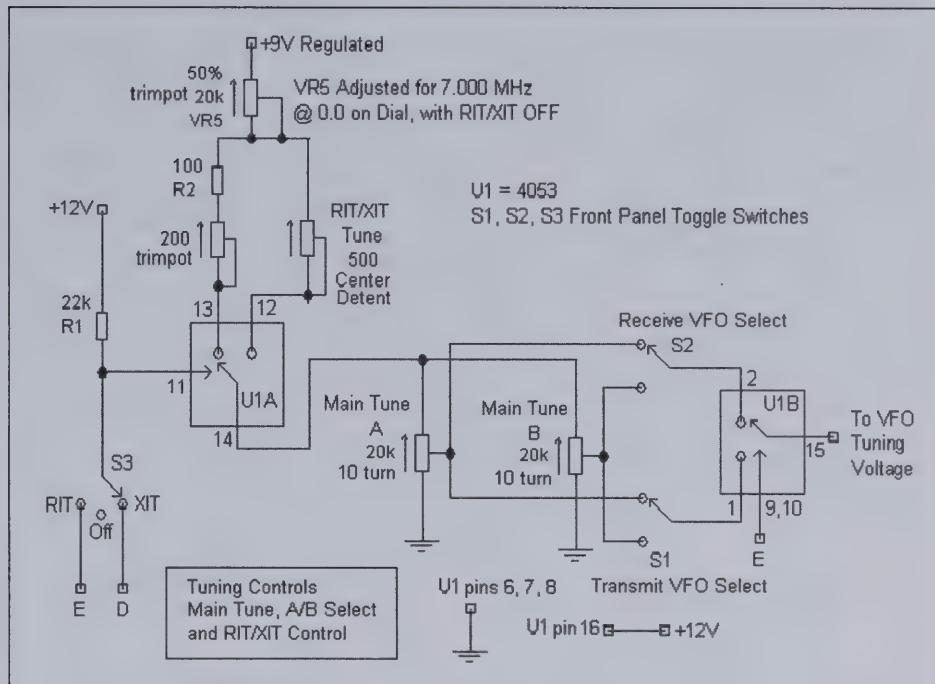
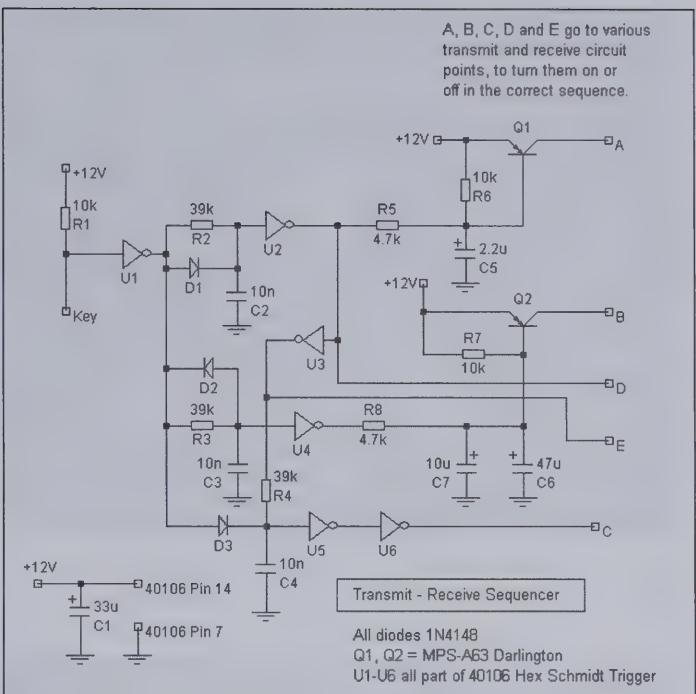

Figure 5—VFO tuning controls.
Figure 12—Transmit—Receive sequencer.
Front panel controls and some switching allow either of two ten-turn potentiometers to control the VFO, and the different potentiometers can be switched to the VFO on transmit and receive, allowing split operation (Figure 5). There is also the option to switch in an incremental tuning potentiometer on either transmit (XIT) or receive (RIT). The two main tuning controls will each cover the entire range of the radio. The incremental tuning potentiometer tunes about +2 kHz from the frequency
Transmit—Receive switching is done by a T/R sequencer that mutes the receiver before enabling the transmitter, and does not unmute the receiver until the transmitter has been disabled (Figure 12). It also starts the transmit carrier oscillator before powering the driver stage, and toggles the
The T/R sequence occurs as follows. Referring to Figure 12, a key down condition causes the output of U1 to be high. Diodes D1 and D3 then cause U2, U3, U5, and U6 to immediately toggle, which causes 12 v. to appear at A (transmit carrier oscillator) and C (receiver mute). At the same time, D goes low and E goes to 12 v., thus toggling the receive and transmit frequency controls (see Fig. 5). The R3/C3 network causes U4 to toggle slightly later, causing 12 v. at B, which switches the antenna to the power amplifier and turns on the transmit driver amplifiers. When the key is up, U1 goes to a low voltage. U4 then toggles immediately, causing the voltage at B to disappear, shutting off the transmit driver amplifiers and switching the antenna back to the receiver. Meanwhile, the inputs to U2 and U4 must now discharge through R2/C2 and R3/C3, causing a small delay before U2 toggles and removes voltage from the transmit carrier oscillator (A). At the same time, voltage D goes to 12 v. and almost immediately thereafter voltage disappears from E, thus toggling the receive and transmit frequency controls. Finally, because U2, U3, U5 and U6 must all toggle in sequence before the condition at C changes, the receiver unmutes last. All of this sequencing thus allows the carrier oscillator to come on a short while before the transmitter goes on the air. In reverse, the transmitter goes off the air before the carrier oscillator, thus allowing a steadier tone to be transmitted. Likewise, the receiver mutes first and unmutes last so that it does not react to minor frequency changes caused by switching.